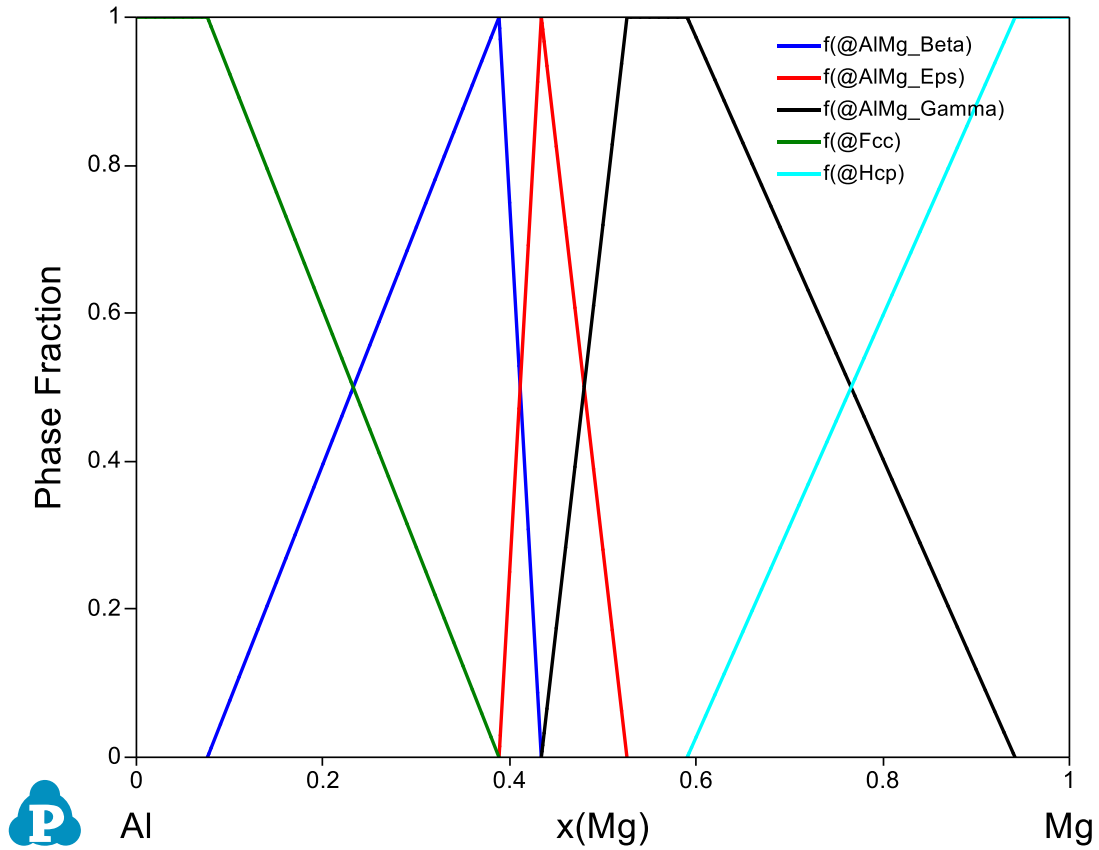

Figure 1.2.3: Phase fraction variation as a function of composition
- In a two-phase field, the fraction of one phase decrease from 1 to 0, while the other increase from 0 to 1 as shown in Figure 1.2.3;